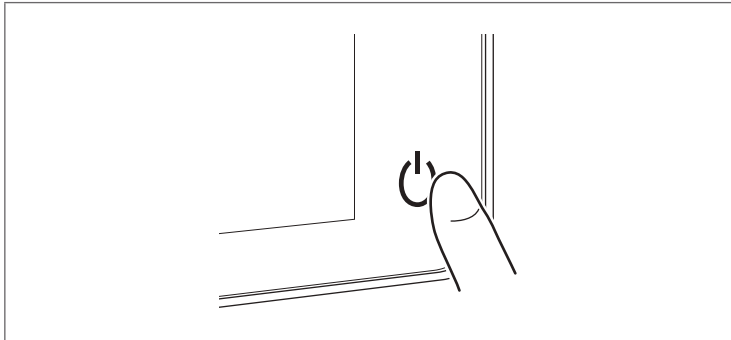

Figure 4.9
- When operating the laser at a high power and/or if the distal end of the endoscope is moved within 10 mm of the irradiated target, flares may appear at one or more corners of the image (Figure 4.9).
- (1) Flare
- (2) Irradiated target
- (3) Probe